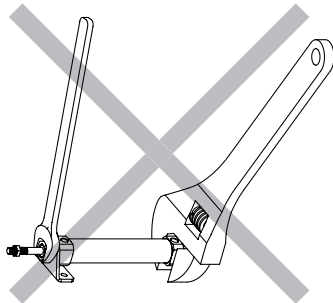

Figure 5
3. Figure 5 shows an example of incorrect installation, i.e. clamping the head cover with one wrench and tightening the end cover nut with another wrench, which tends to cause damage to the cylinder.